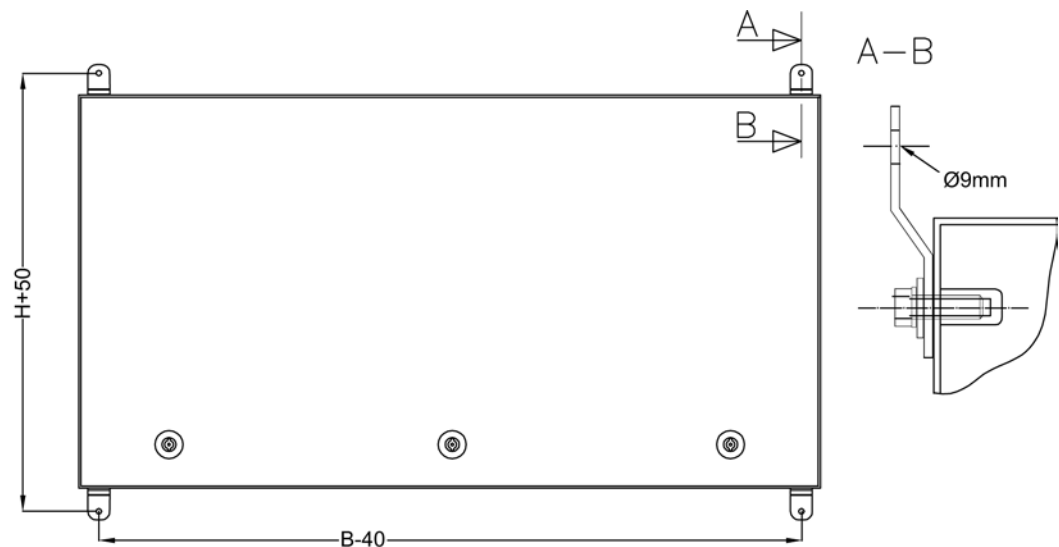

Figure 4-1 Drilling template for securing the device
2. Mount the wall support (included in the enclosure accessories) to the rear panel of the enclosure in accordance with Fig. 4-1. Secure the enclosure using 8 mm diameter screws and lock washers at the location of use.